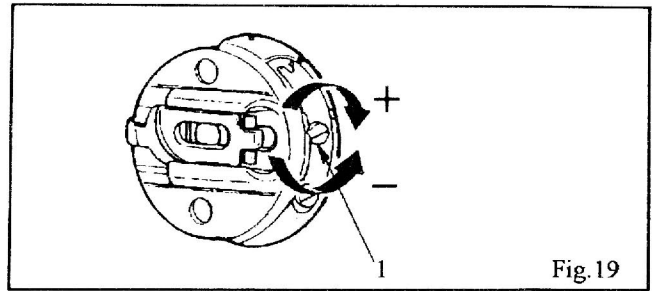

Fig. 19
Regulate bobbin thread tension with tension regulating screw (1) as shown in Fig. 19.